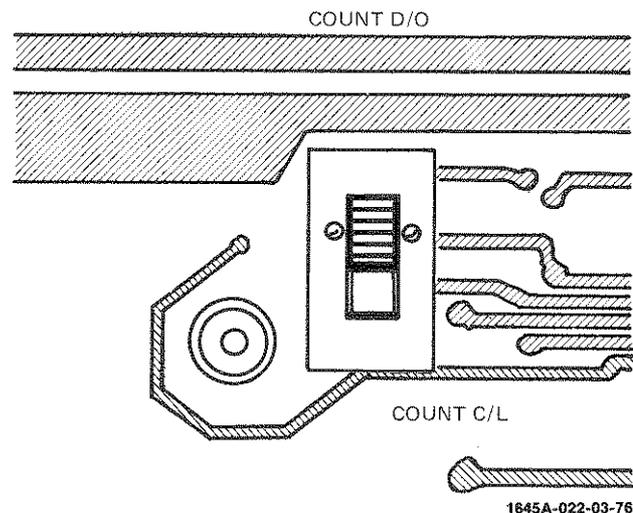

Figure 3-7. COUNT D/O - COUNT C/L Switch
**3-42. COUNT D/O - COUNT C/L SWITCH.** When the EVENT switch is set to CARR LOSS, an internal switch mounted on the A1 board between A1J10 and A1J11 (see figure 3-7) determines whether the 1645A counts carrier loss signals from the modem under test or data dropouts detected by the 1645A. The 1645A counts dropouts in the COUNT D/O position or carrier losses in the COUNT C/L position.